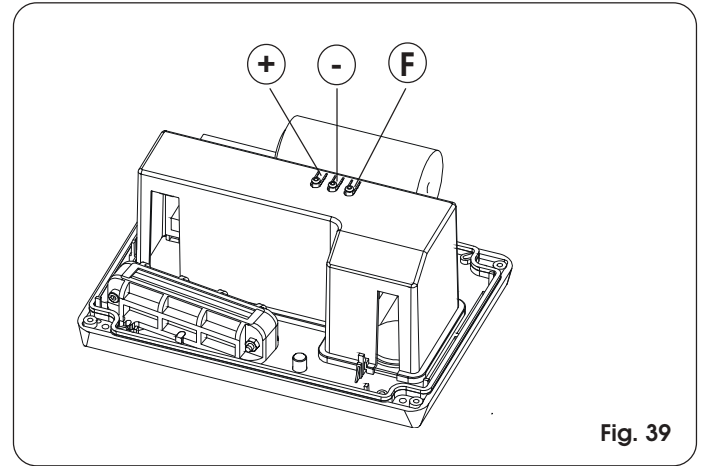

Fig. 39
**Attention: before attempting to power up the system, we advise you to re-position the equipment's cover, to avoid coming into contact with high voltage parts, and to use the push-buttons on the cover to activate the keys (fig. 39).**